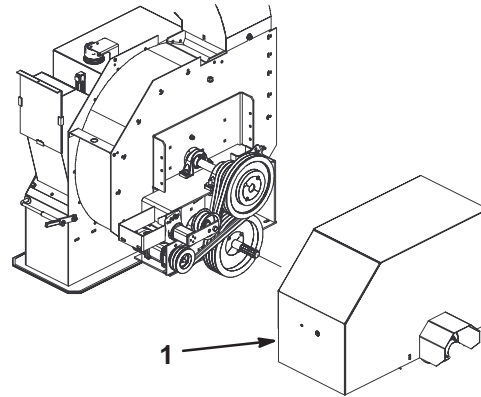

Figure 16
1. Remove the capscrews, washers and nuts securing the drive shield to the impeller housing (Fig. 16). Remove the shield.